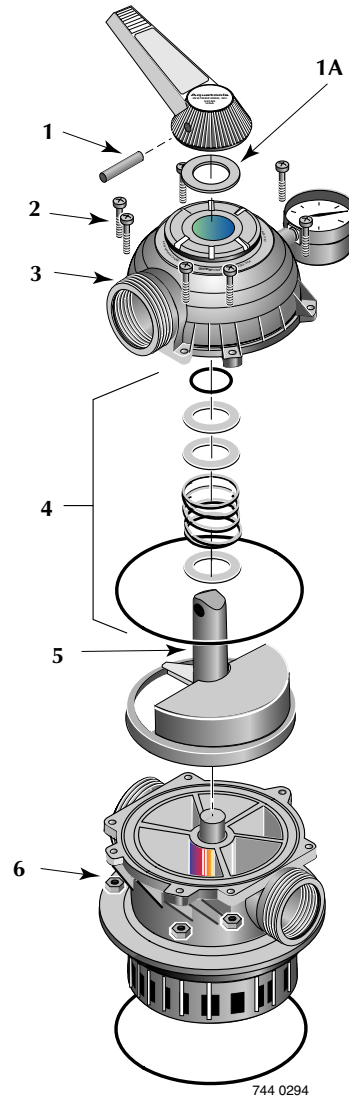

Figure 13: Valve Disassembly
3. Remove pin (Key 1, Figure 13) to disconnect handle. If it cannot be removed by hand, use a hammer and center punch and lightly tap it out.
1. Remove all screws and nuts (Key Nos. 2 and 6, Figure 13).